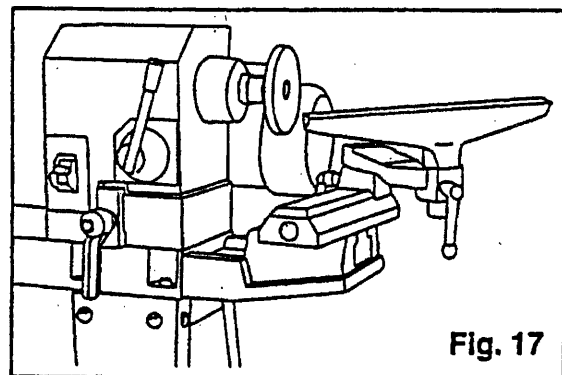

Fig. 17
5. The tool rest can also be repositioned to the extension bed for use on outboard turnings. (Figure 17)